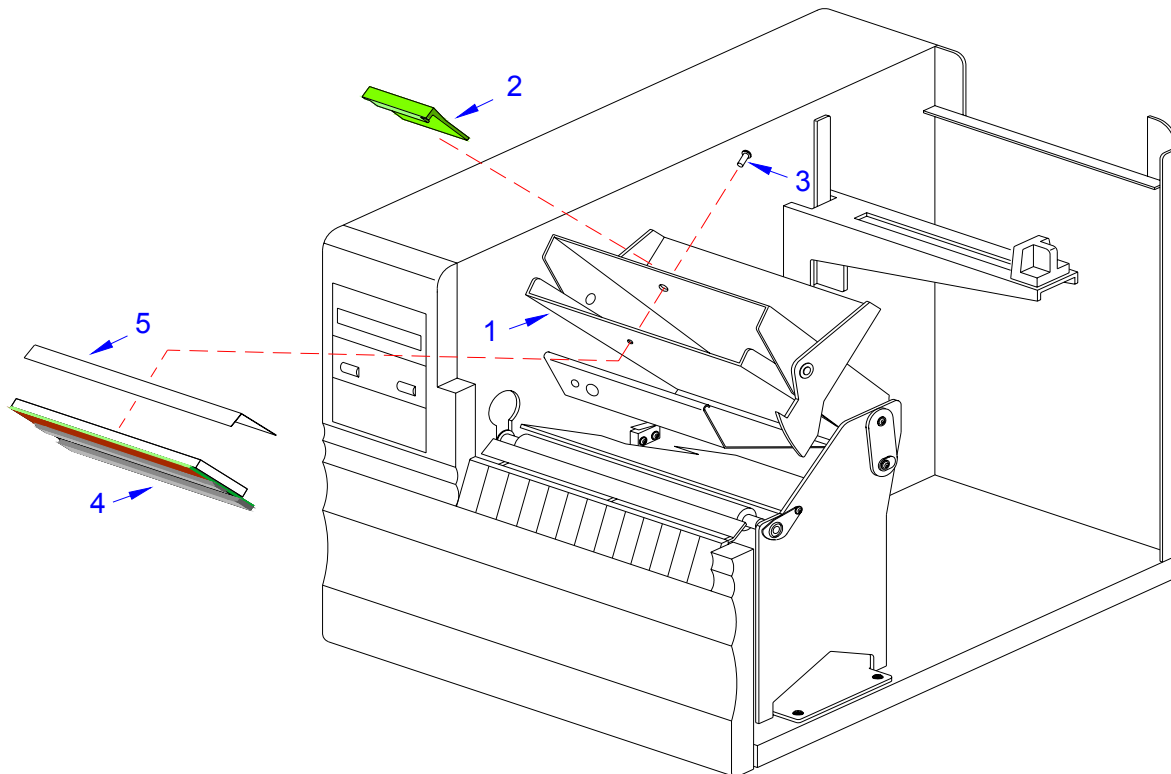

Figure 6-3, Print Head Replacement
- 2 Open the right housing cover and unlatch print head assembly (1, Figure 6-3).
- 3 Pry lever guard (2) free from print assembly (1).
- 4 Remove screw (3) to release defective print head (4) and tear bar (5).
- 5 Disconnect the wiring harness from defective print head (4) and lift away.
- 6 Apply tear bar (5) to replacement print head (4) and secure to print assembly (1) using screw (3).